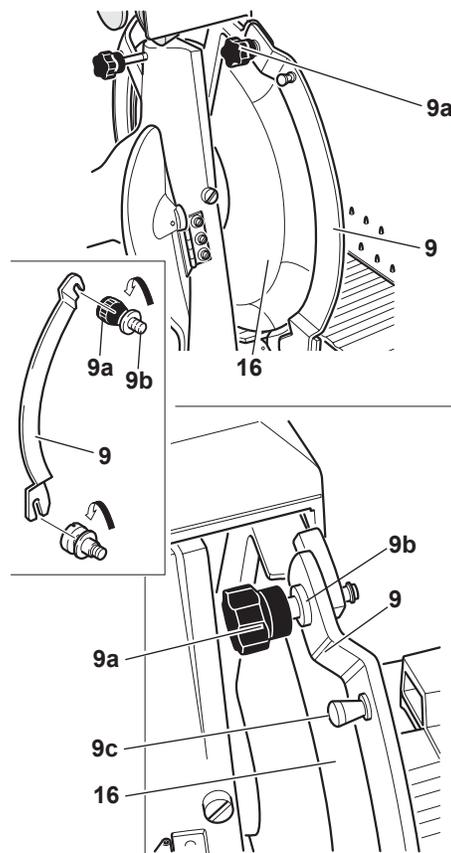

Figure 19-2
3. Close the knife guard (9). Loosen, but do not remove the top and bottom knobs (9a) on the knife guard (9) (Figure 19-2).
5. Tighten the top and bottom knobs (9a) on the knife guard (9).